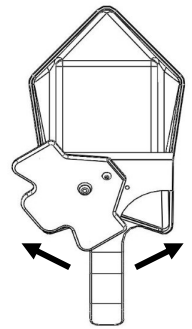

Fig. 4
- Flip open the tray cover to the left or right. If right-handed, flip the cover to the right to expose the left-most spout hole. (Fig. 4).